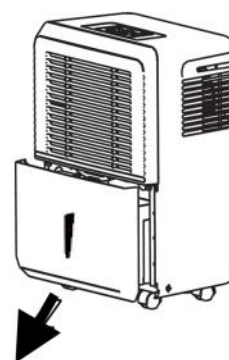

Fig. 1
3. Grip the left and right handles of the drain bucket securely and carefully pull out the drain bucket. Do not put the drain bucket on the floor because the bottom of the bucket is not even which may cause the water to spill. See Fig. 1 and Fig. 2.